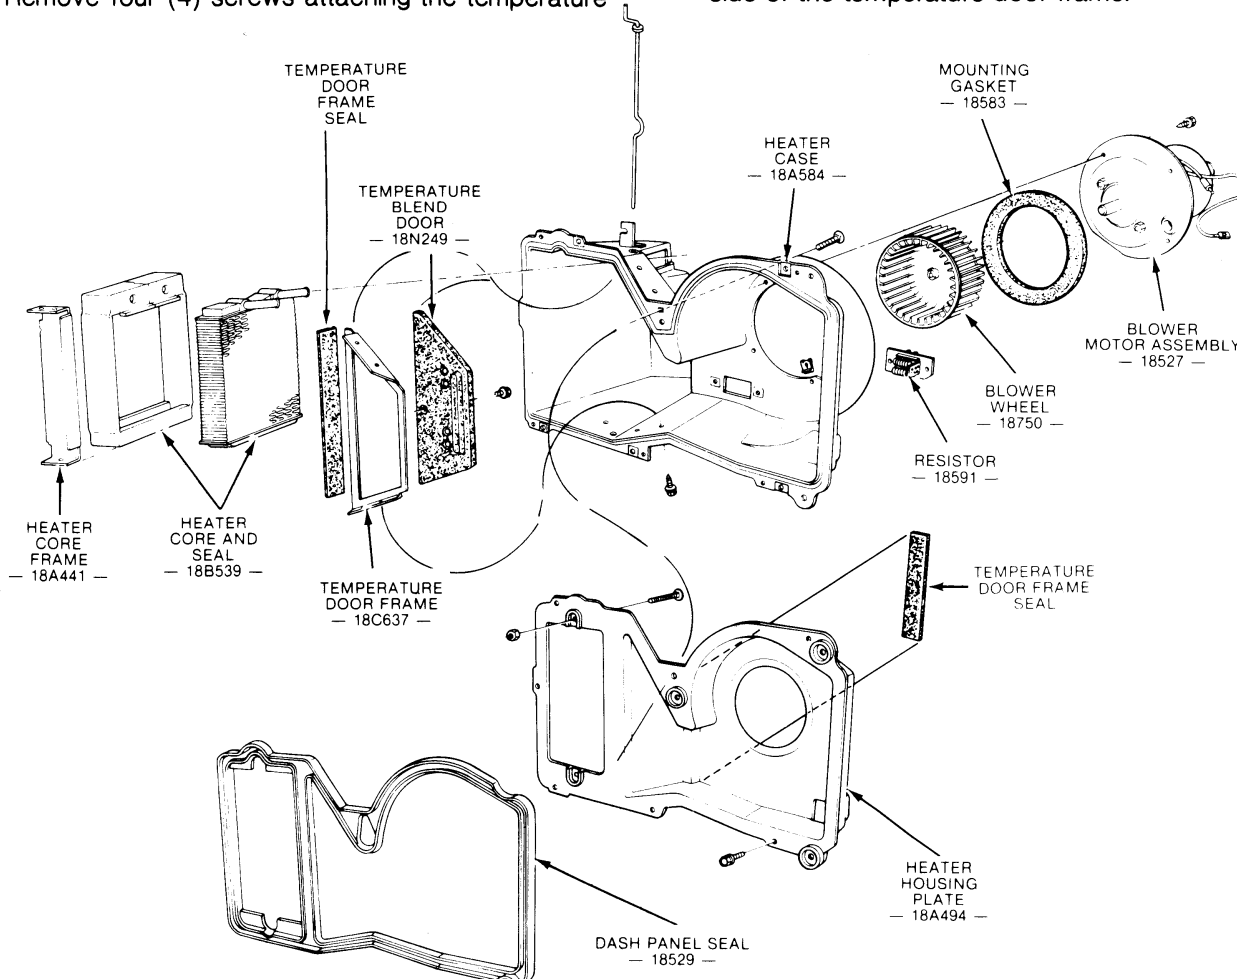

Fig. 13 — Heater Case Disassembled
2. Remove nine (9) screws and one (1) bolt and nut attaching the heater housing plate to the heater case (Fig. 13), and remove the heater housing plate.
3. Remove three (3) screws attaching the heater core frame to the heater case and remove the frame.
5. Remove four (4) screws attaching the temperature